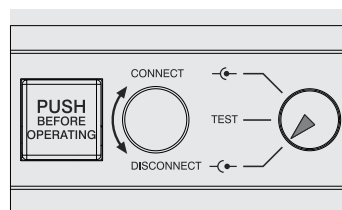

Figure 101
- circuit breaker in DISCONNECT position (see Figure 101)